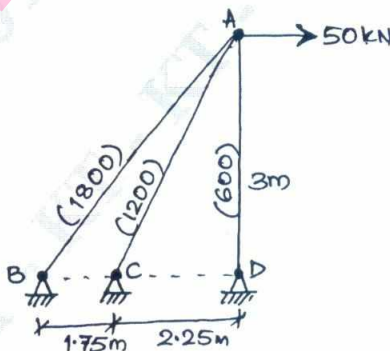

Fig.Q.10
- 10 Analyze the pinjointed frame shown in Fig.Q.10 by matrix stiffness method and find forces in all the members. The numbers in parentheses are the C/S areas of members in sqmm. (Take E = constant). (16 Marks)